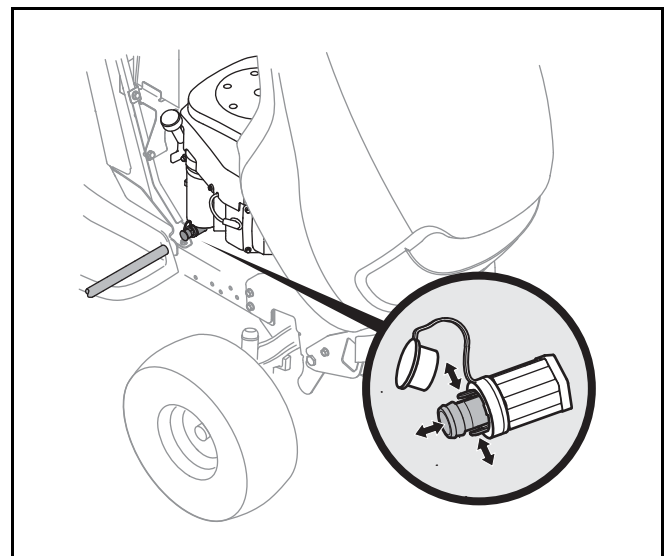

Figure 17
1. Pop open the protective cap on the end of the oil drain valve to expose the drain port. See Figure 17 .
4. Pinch the tabs on the oil drain valve, then pull outward to begin draining oil. See Figure 17 .